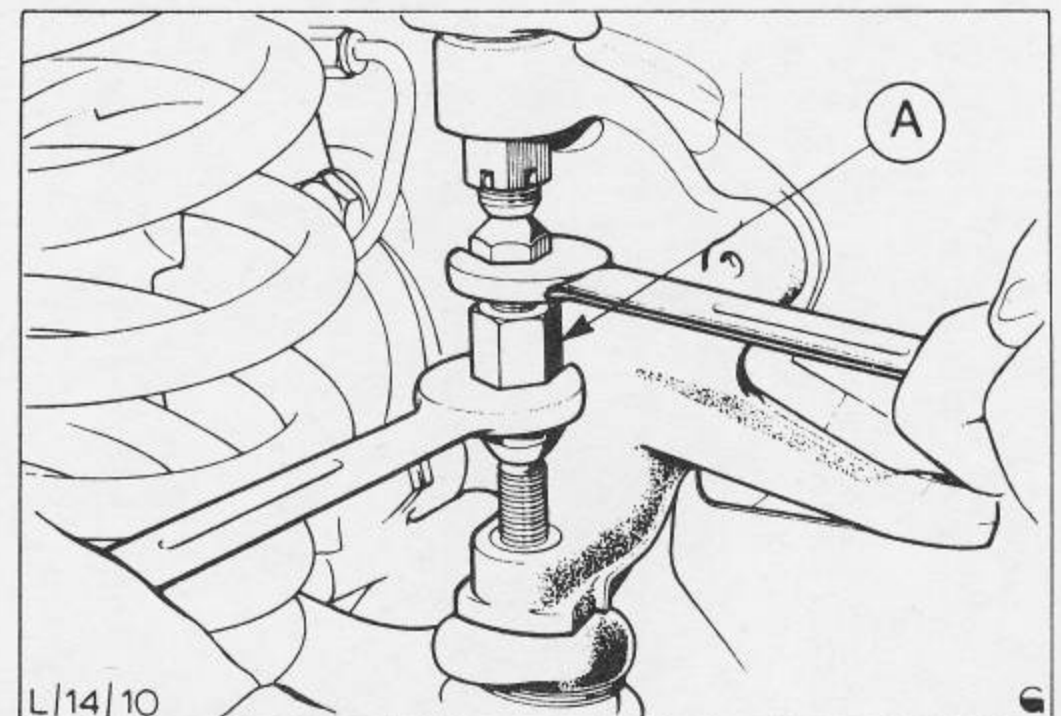

Fig.14 Free ball joint tapers.
9. Free ball joint tapers from their stub axle locations using separator and remove stub axle. Fig.14